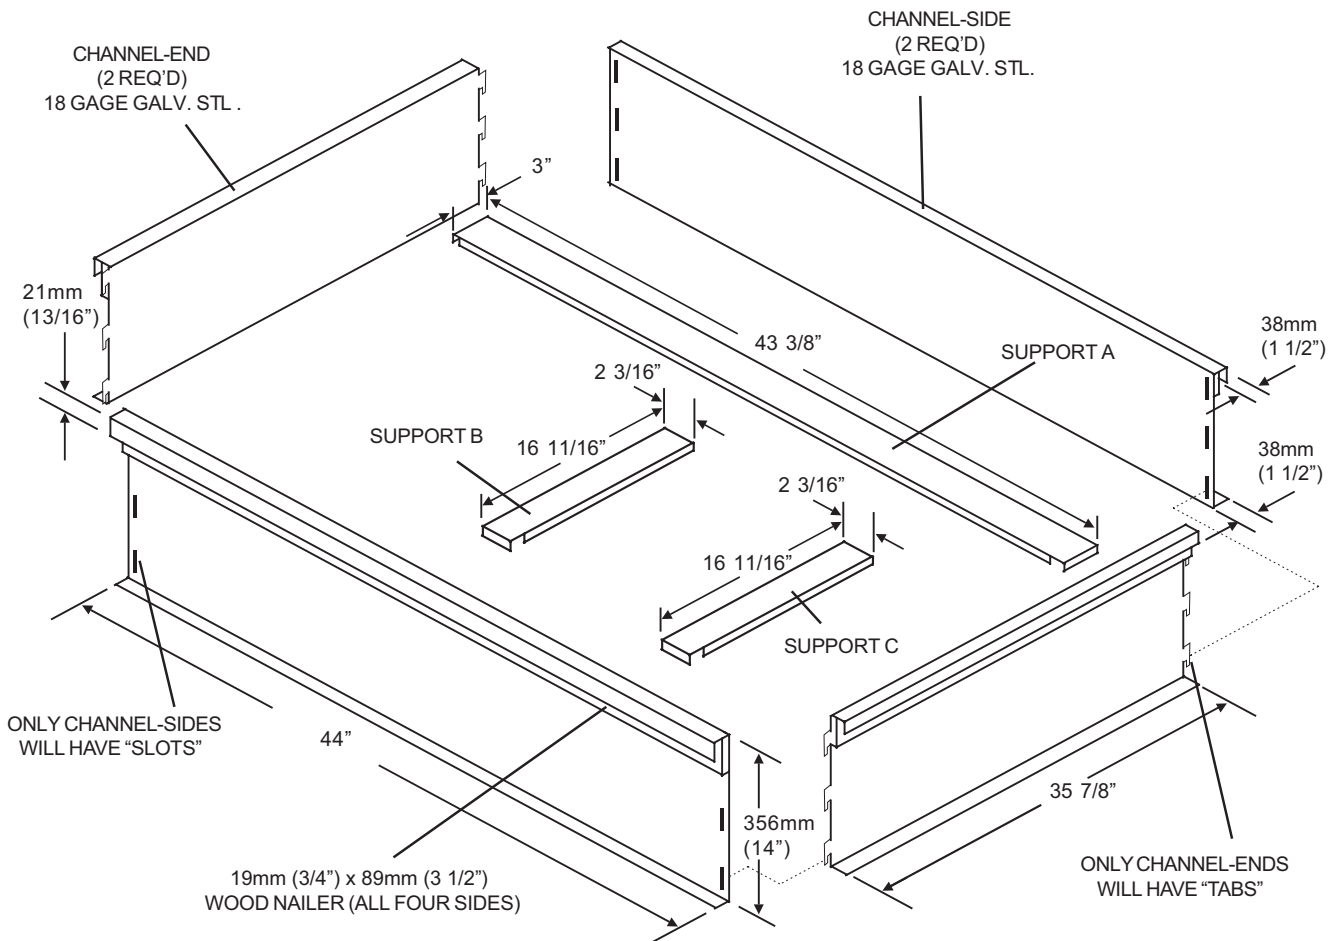

Figure 4. BAYCURB050 Component Drawing
4. See Figure 4, page 4, for components of curb.
3. Set supports A, B, and C onto channel sides and channel ends as shown in Figure 4 (below).